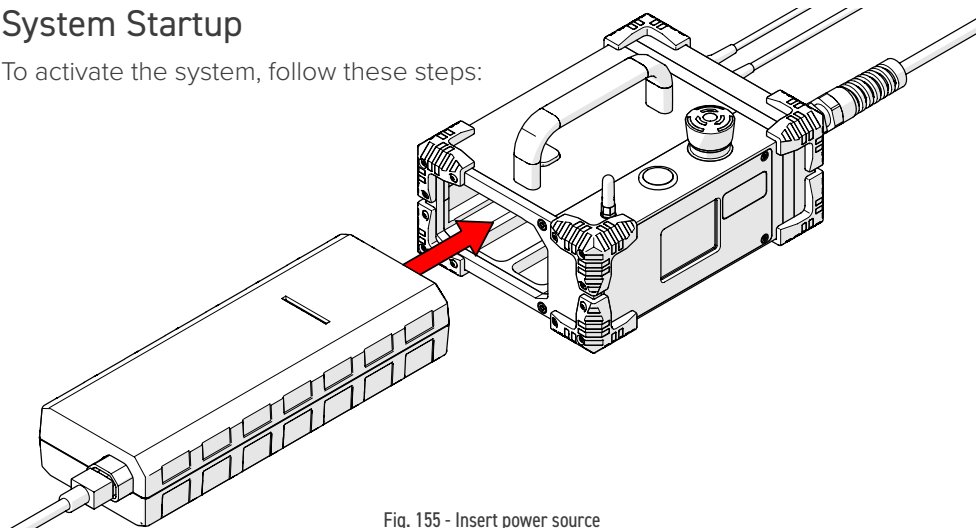

Fig. 155 - Insert power source
1. Insert the power source (Fig. 155) into the system controller dock.